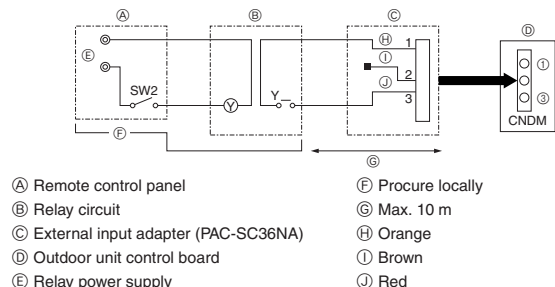

Fig. 9-2
9.2. Demand function (on-site modification) (Fig. 9-2)